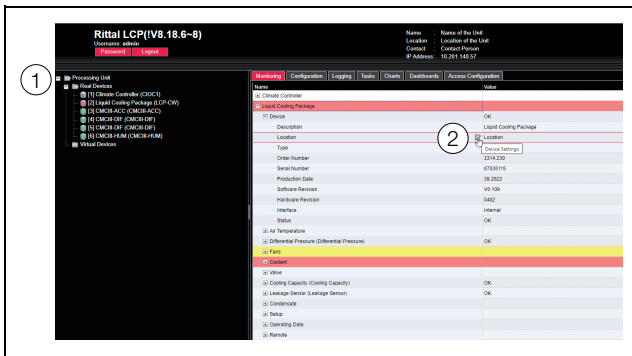

Fig. 118: Selecting an individual parameter
- One after the other, open the "Liquid Cooling Package" and "Device" entries by clicking on the "plus" symbol in front of the entry (fig. 118, item 1).
- Position the mouse pointer at the end of the first column in the "Location" line (fig. 118, item 2).